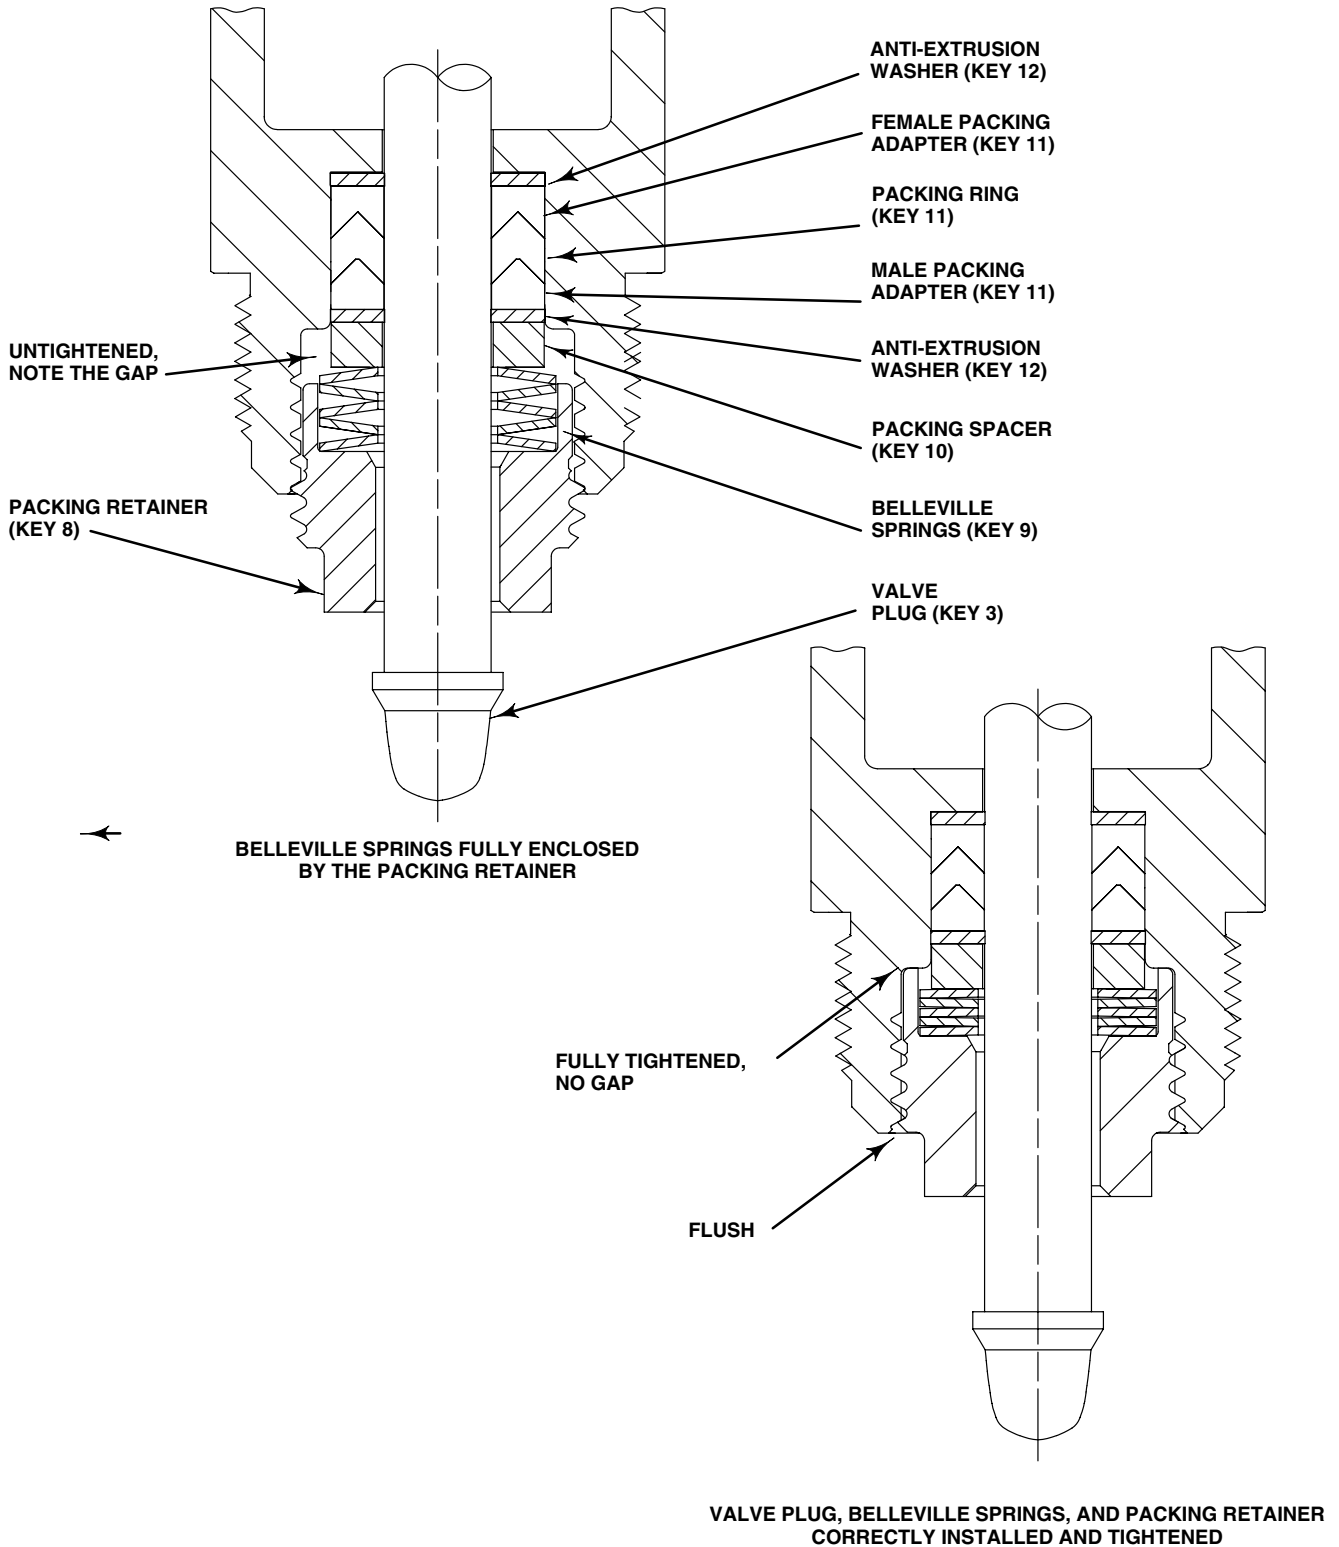

Figure 4. Packing and Belleville Spring Stacking Order
8. Unscrew the flow adjuster socket head cap screws (key 29), and remove the flow adjuster halves.
9. Unscrew the packing retainer (key 7) from the bonnet (key 2). After the packing retainer has been unscrewed from the bonnet, pull the valve stem and plug out of the bonnet.
10. Remove the five Belleville springs (key 9), packing spacer (key 10), packing (key 11), and two anti-extrusion rings (key 12) from the bonnet. See figure 4.
14. Inspect the valve stem bushing (key 8) located in the upper end of the bonnet. If damaged, remove and replace it with new bushing (key 8). Replace the valve stem bushing by inserting the bushing, flange end first, into the bore located at the top of the bonnet flow adjuster window. Insert until the flange snaps into the groove provided for it.
15. Remove the O-ring (key 17) from the upper end of the bonnet. Replace it with a new one, and lubricate it with lithium grease.
5. Install the male packing adaptor, lower anti-extrusion washer (key 12), and packing spacer over the valve stem as shown in figure 4.
7. Install the five Belleville springs (key 9) over the valve stem as shown in figure 4.
8. Lubricate the threads of the packing retainer with anti-seize and install into the bonnet using a 1-1/8 inch wrench. Make sure the Belleville springs are completely enclosed by the packing retainer as shown in figure 4.
9. Torque the packing retainer to 81 N•m (60 lbf•ft). The packing retainer has been installed correctly when a metal-to-metal contact has been made between the packing retainer end and the bonnet (key 2). The packing retainer threads should be flush with the bottom of the bonnet as shown in figure 4.
10. If the bottom casing (key 20) has been removed, place O-ring (key 16) into the groove provided in the top of the bonnet. Place the bottom casing on the bonnet, oriented in the same position as marked in step 7 on page 8. Screw the hex nut (key 18) onto the bonnet, and tighten to 203 N•m (150 lbf•ft).